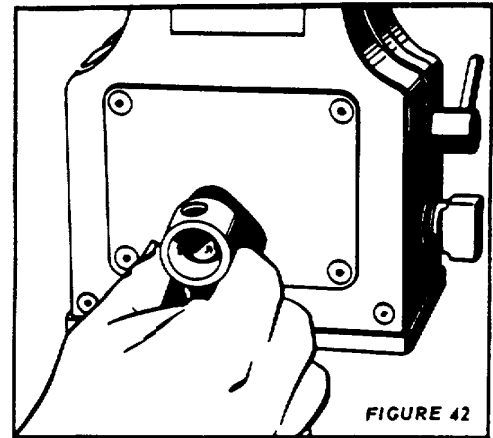
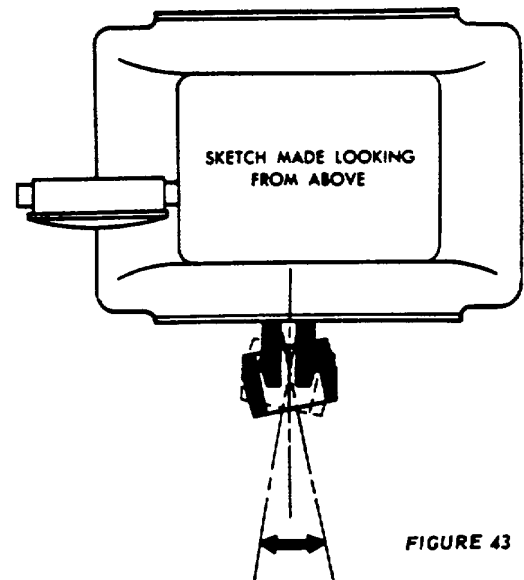

FIGURE 42
FIGURE 43
- (2) Gaging is similar to that of pistons. Hang the rod freely from the gage centralizer point as shown in Figure 42. Do not touch face of gage with rod. Rock the rod from side to side (Figure 43) to determine hole size as shown by minimum indicator reading.